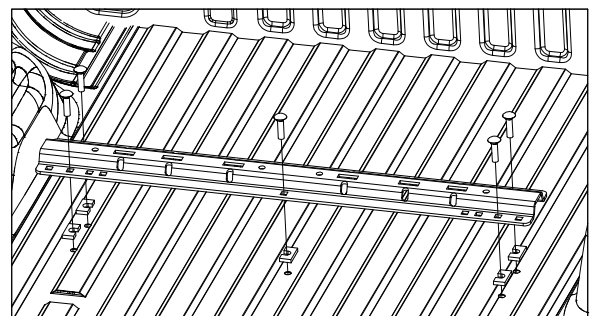

Figure D1: View looking into truck bed from rear of truck.
1. **Install the rear mounting rail.** Reposition the rear mounting rail over the drilled 9/16" holes in the bed. Install a 1/2" X 2" carriage bolt through the mounting rail into each of the five drilled holes, as shown in Figure D1.